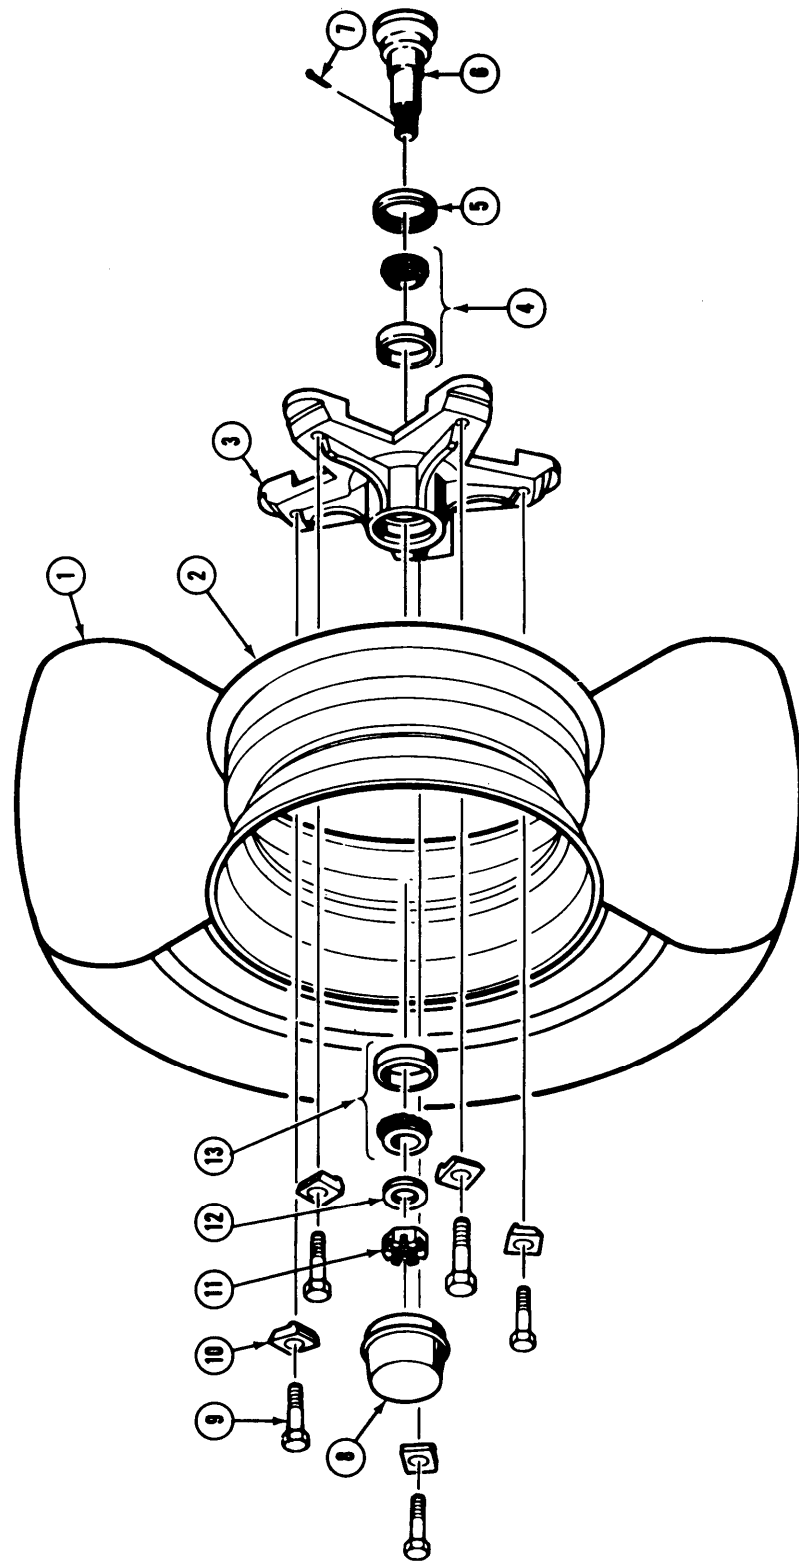

Figure 5-7. Hub Assembly
n. Remove tire and rim (1 and 2, Fig. 5-7) and hub assembly (3) from axle by removing rim bolts (9) and rim clamps (10).
a. Install tire and rim (1 and 2, Fig. 5-7) and hub assembly (3) to axle by using rim clamps (10) and rim bolts (9).
5.5.6 Hub Assembly (Fig. 5-7)